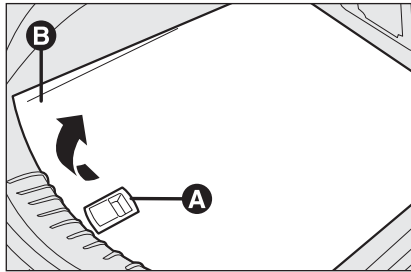

fig. 2
- Using handle **A-fig. 2**, lift the stiff cover **B**;